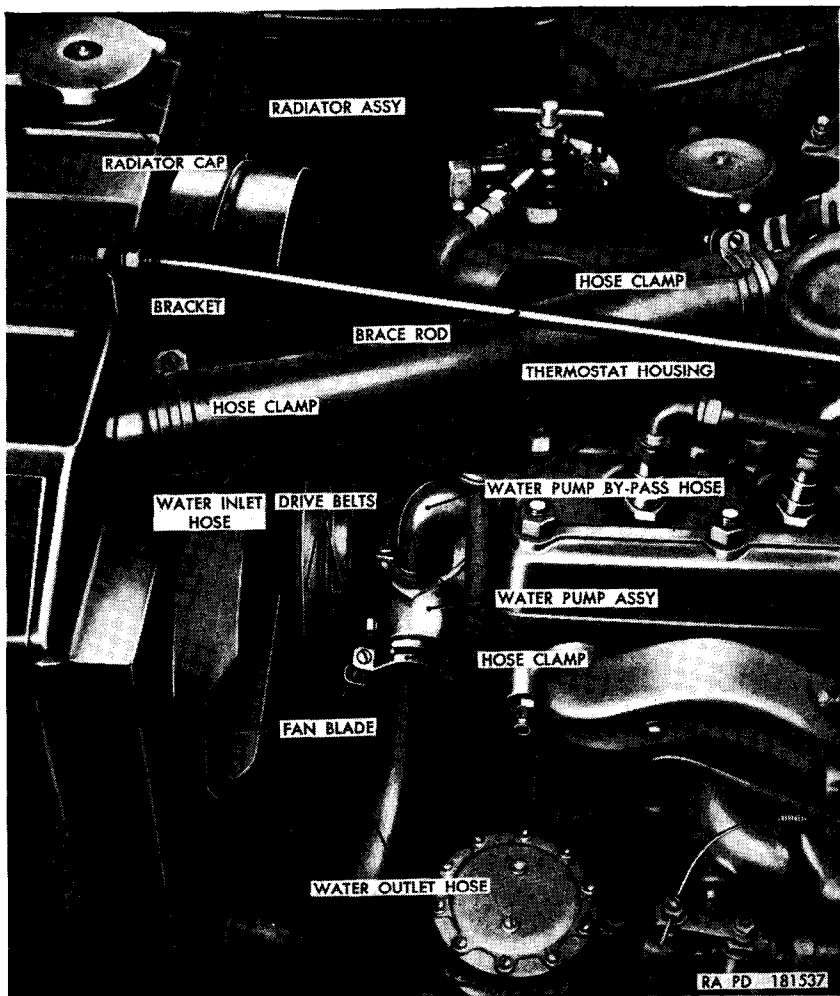

Figure 39. Cooling system.
- (1) *General.* The cooling system (fig. 39) is fully sealed and pressurized. The system consists of a water pump, water pump bypass, fan, drive belts, radiator, thermostat, and connecting hose. Water is drawn down through the radiator to the bottom thence through the water outlet hose to the water pump which forces it through the cylinder block, cylinder head, and the water inlet hose to the top of the radiator. Air, for cooling the water, is drawn through the radiator by the fan. Correct operating temperature is maintained by the thermostat.
- (4) *Water pump assembly.* The water pump assembly (fig. 39) is the centrifugal-type, located at the front of the cylinder block.
- (5) *Fan.* The fan has four blades and is mounted on the fan and water pump pulley. The water pump and fan are driven by a matched pair of V-belts.
- (1) Drain the cooling system (par. 121).
- (2) Remove the radiator guard (par. 263).
- (3) Loosen the nut on the rear end of the brace rod (fig. 39). Loosen the nut on the front end of the brace rod, securing the rod to the bracket, sufficiently to permit the rod to be pulled up out of the bracket. Lift the rod out of the bracket and swing it toward the rear of the vehicle to clear the radiator assembly.
- (4) Loosen the two hose clamp screws on the water inlet hose (fig. 39) and remove hose. Loosen the two hose clamp screws on the water outlet hose (fig. 39) and remove the hose.
- (3) Install water inlet hose (fig. 39) and tighten both hose clamp screws. Install water outlet hose (fig. 39) and tighten both hose clamp screws.
- (4) Swing the brace rod (fig. 39) toward the front of the vehicle and align rod with slot in bracket on the radiator assembly. Position flat washer against the rear nut at the front end of the rod, position lockwasher and flat washer against the front nut at the front end of the rod. Slide the rod down into the slot. Make sure that one flat washer is at the rear of the bracket and one flat washer at the front. Adjust the rear nut so that the washer is snug against the rear of the bracket. Tighten the nut at the front end of the rod. Fill the cooling system (par. 121) and check for leaks. Install the radiator cap. Start the engine and run until normal operating temperature is reached. Recheck the coolant level.
- (2) Remove the fan and generator drive belts (par. 123*b*).
- (3) Remove the water outlet hose (par. 122*a*(4)).
- (4) Loosen the hose clamp screws securing the water pump bypass hose (fig. 39) to the water pump assembly and cylinder head and remove the hose.
- (6) Remove four bolts and lockwashers securing the water pump (fig. 39) to the cylinder block and remove the pump and gasket.
- (2) *Water pump assembly.*
- (b) Position pump in opening in front of cylinder block, at the same time, sliding water pump bypass hose (fig. 39), with clamps in place, over connections on water pump and cylinder head.
- (d) Tighten hose clamps securing the water pump bypass hose (fig. 39) to the water pump and the cylinder head.
- (e) Install the water outlet hose (fig. 39), with hose clamps, on the radiator outlet and the water pump connections, and tighten the hose clamp screws securing the hose.
125. Radiator and Water Pump Bypass Hose (fig. 39)
a. Removal. Drain cooling system (par. 121). Remove three screws and lockwashers holding thermostat housing (fig. 39) to cylinder head. Loosen hose clamp screw on radiator end of water inlet hose (fig. 39). Lift thermostat housing from cylinder head, being careful not to damage thermostat, and pull inlet hose from radiator. Use pliers to remove thermostat retainer from housing and remove thermostat. Discard gasket.